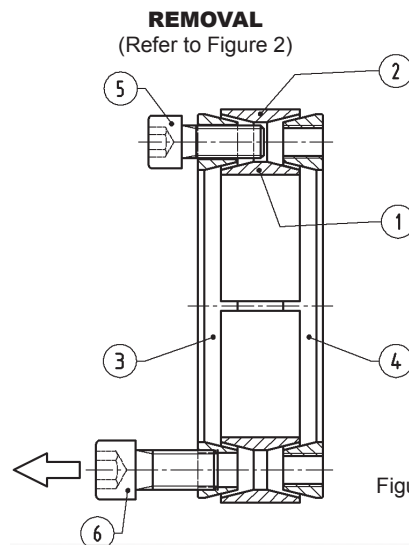

Figure 2
2. Remove all locking screws. Transfer required number of screws into all push-off threads of clamp collar Item 1 (see Figure 2).
4. Transfer locking screws used for dismounting of clamp collar Item 1 into all push-off threads in center collar Item 3 (see Figure 2). Release clamp collar Item 2 by repeating procedures outlined in Step 3.